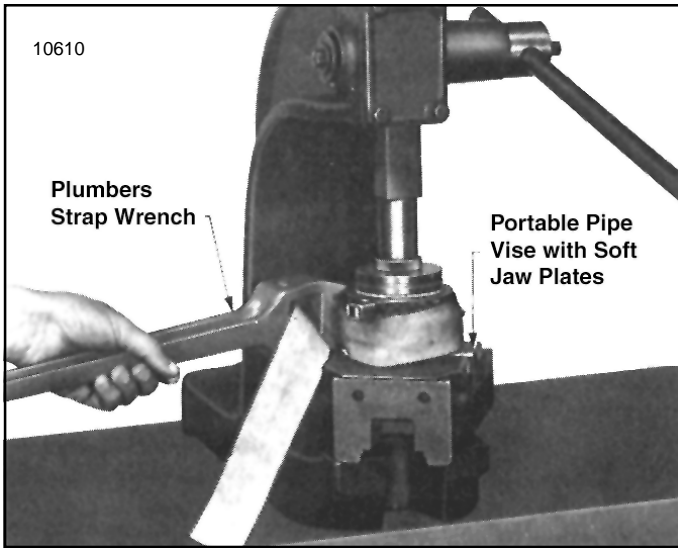

Figure 7-22. Winding Load Brake Gear Using a Plumber's Strap Wrench to Set Up Load Brake Spring.
- (6) The brake spring must be pre-loaded at assembly to a torque of from 10 to 14 lb. ft. This is accomplished using a plumber's strap wrench to wind (rotate) load brake gear to set up spring (Figure 7-22) while pressing brake flange into place using an arbor press. Clamp pinion end of shaft into a portable vise to keep brake from rotating in press. Use brass or copper jaw plates on vise to protect pinion gear teeth. Wind gear counterclockwise (viewing brake from flange end) with plumber's strap wrench and press down on flange until snap ring groove in shaft is exposed allowing snap ring to be installed. Use extreme care not to over wind spring as yield will result and final spring torque will be reduced. Do not wind gear beyond point necessary to install snap *ring in groove.